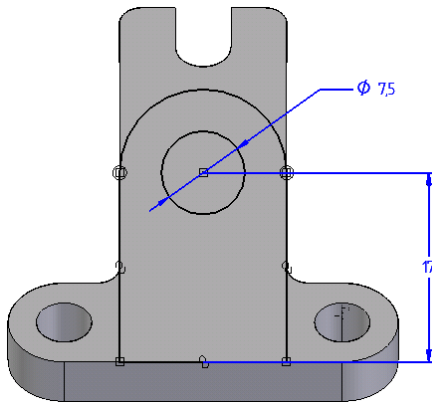

Figure 5-73 Profile for the second feature
- Define a new reference plane at an angle of 45-degrees to the right edge of the base feature and use it to draw the profile for the second feature, refer to Figure 5-73.
8. Make sure the **Include with offset** and **Include internal face loops** check boxes are cleared in this dialog box. Choose **OK** from this dialog box and then select the edges to project, as shown in Figure 5-73.
9. Trim and extend the projected entities using the sketching tools and then draw a tangent arc to complete the profile of the second feature, refer to Figure 5-73.
10. Add a circle to the profile and then add the required dimensions to the profile and the circle, as shown in Figure 5-73.